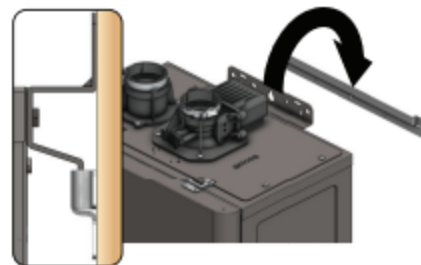

Figure 6 - Use Mounting Screws to Secure Water Heater to Bracket
**2** Hang the heater on the mounting bracket (Figure 6).